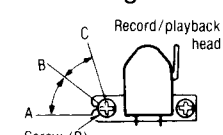
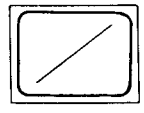

Fig. 3
Fig. 6
2. Playback the 8kHz signal from the test tape (QZZCFM). Adjust screw (B) in fig. 3 for maximum output L-CH and R-CH levels. When the output levels of L-CH and R-CH are not at maximum at the same point adjust as follows.
3. Turn screw (B) shown in fig. 3 to find angles A and C (points where peak output levels for left and right channels are obtained). Then, locate angle B between angles A and C, i.e., point where L-CH and R-CH outputs are balanced. (Refer to figs. 3 and 4.)
5. Playback the 8kHz signal from the test tape (QZZCFM). Adjust screw (B) shown in fig. 3 so that pointers of the two EVMs swing to maximum and a lissajous waveform as illustrated in fig. 6 is obtained on the oscilloscope.